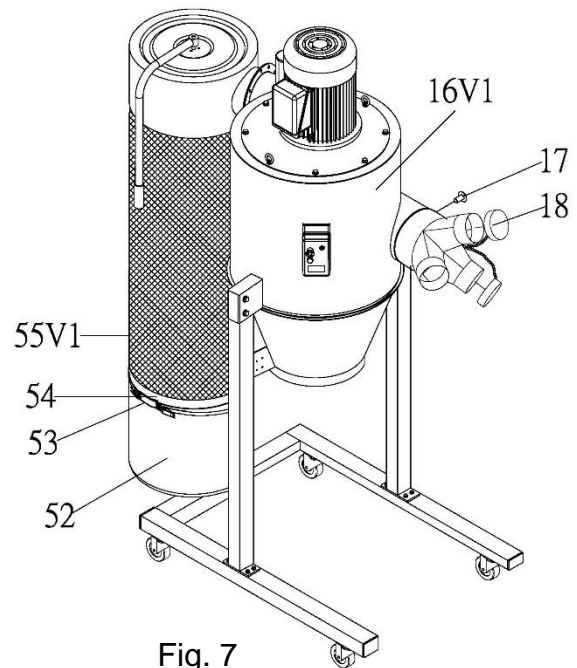

Fig. 7
9. Assemble Inlet Adaptor (NO.18) on Main Housing (NO.16V1) and tighten with Phillips Head Screw (NO. 17) 3/18" x 3/8". See FIG. 7.
10. Assemble and tight PE bag (NO.52) on bottom of Canister filter with Steel bag clamp (NO.53). See FIG. 7.